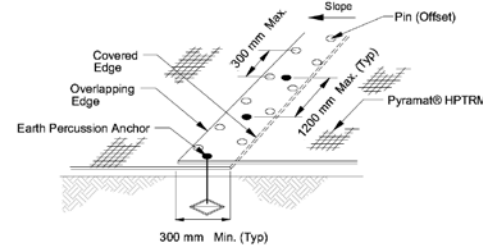

FIGURE 5: OVERLAP AT ROLL END DETAIL
- b: Roll end overlap: 300mm minimum overlap with upstream mat on top. Secure with two rows of ground pinning devices staggered 300mm apart on 300mm centers and with one row of earth percussion anchors on 1.2m centers (see Figure 5)